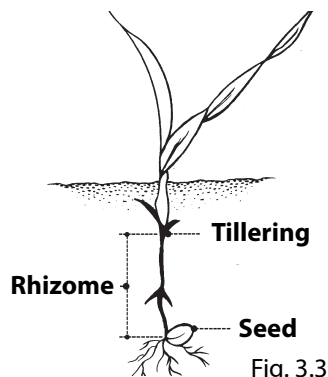

Fig. 3.3
**Very deep planting: from 8 to 10 cm (Fig. 3.3)**